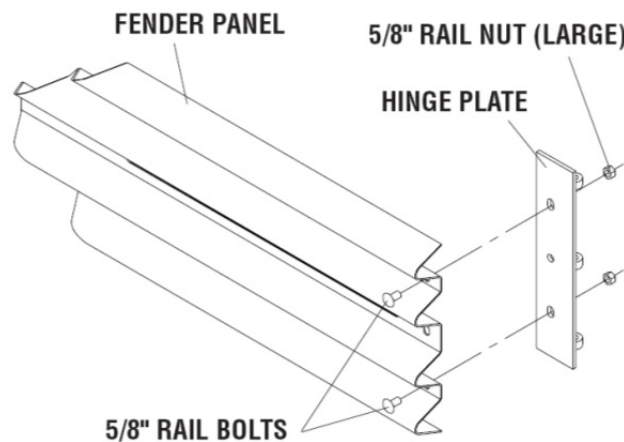

Figure 58
Attach Hinge Plate on each Fender Panel using two (2) 5/8" rail bolts and two (2) 5/8" rail nuts, using top and bottom holes only, leaving the center-hole open as shown in Figure 58.